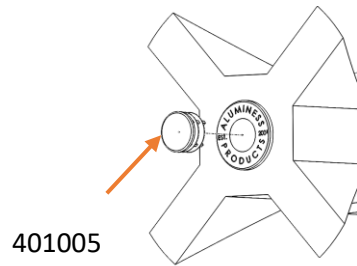

Figure 20: Snap-In Round Plug
39. Once everything is securely fastened insert the snap in plug into the wedge mount. Reference Figure 20.